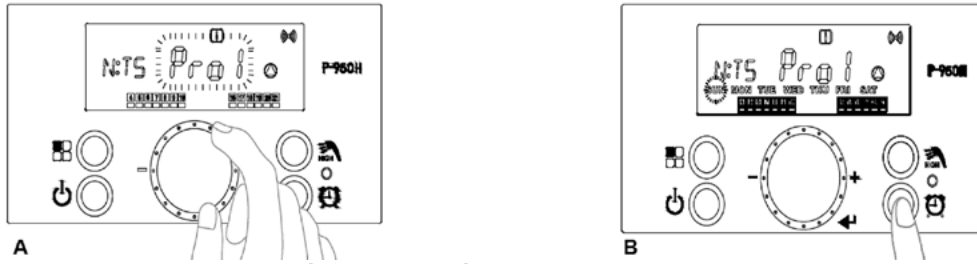

Figure 63 - A - Selecting a Recirculation Function, B - Entering Day Setting
- Turn the dial button at the "Pro1", "Pro2", "Pro3", or "PULS" screens to select a Recirculation Function. See Figure 63 A. Press the  button to select the mode.
- Press the  button to enter the day setting. See Figure 63 B.